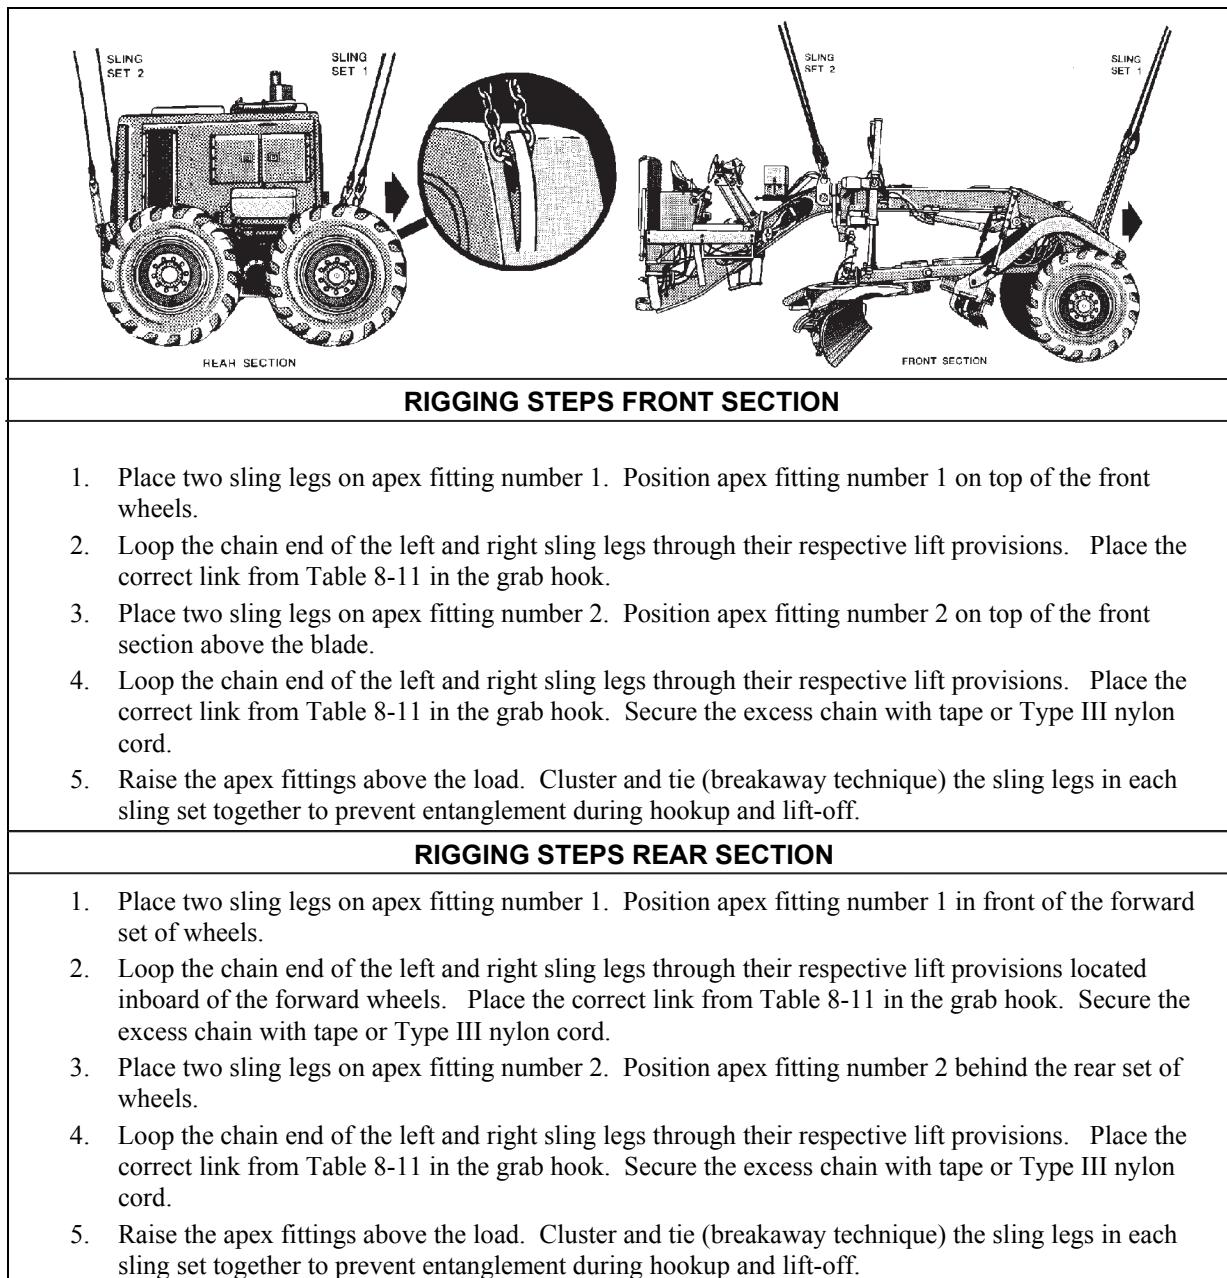

Figure 8-11. 130GS Grader, Sectionalized
- **Rigging.** Rig the load according to the steps in Figure 8-11.